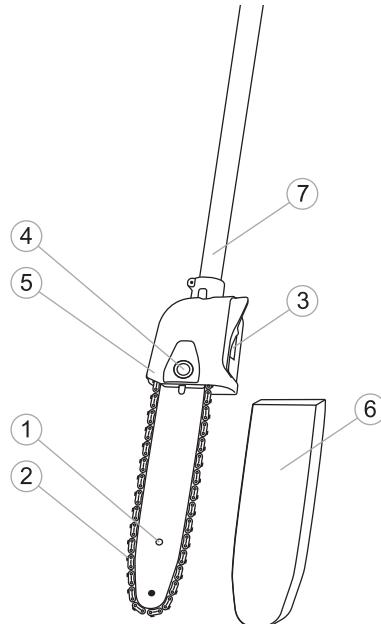

fig. 14
2. Place the tire over the adjustment studs on the assembled cutting head. (fig. 14).